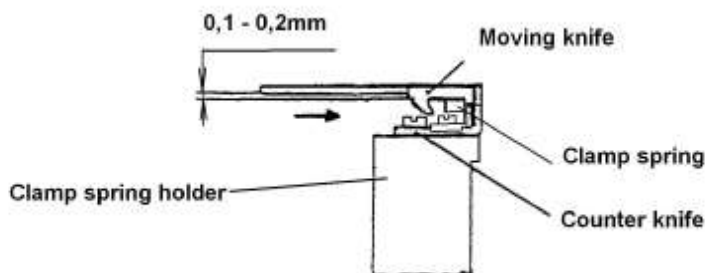

Fig. 13
**15 To adjust the holder of counter knife and clamp spring.** (Fig. 13)(table I1 –Parts Book)
Move the clamp spring so that it is slightly in contact with the moving knife (in direction of the arrow – Fig. 13 )